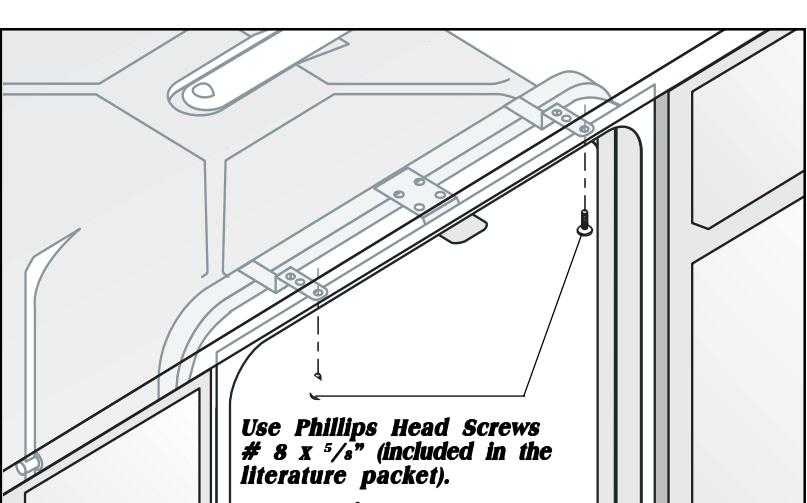

Figure 14
3. Adjust levelers (see Step 5) so mounting brackets touch underside of countertop. **IMPORTANT:** Dishwasher must rest on floor—do not hang from countertop. See **Figure 14**.